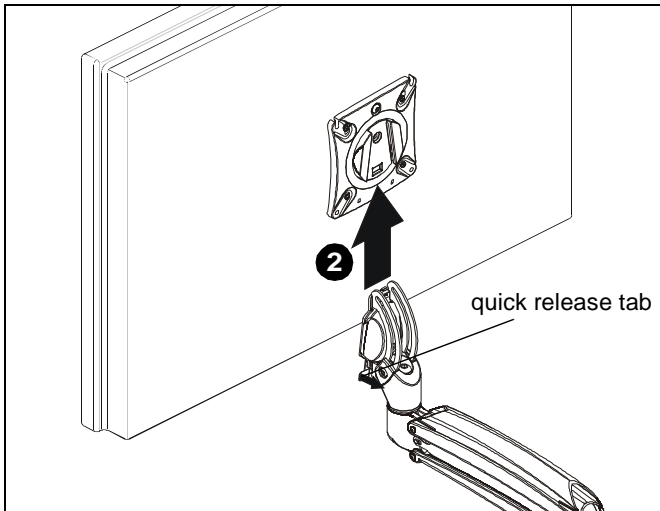

Figure 15
**WARNING:** Only remove display from mount when the display can be lifted up from the mount! DO NOT remove display unless the display is in the upright position! (See Figure 15)
2. Remove quick release faceplate from mount by pulling quick release lever and sliding faceplate off mount. (See Figure 15)